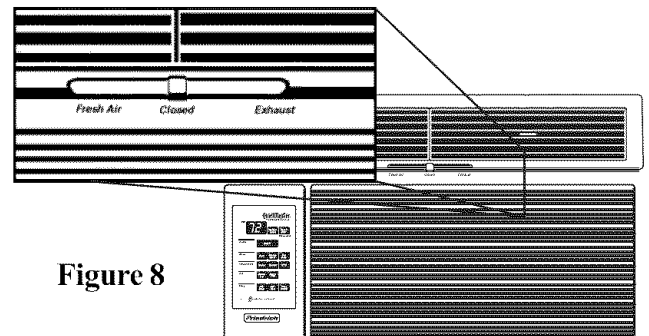

Figure 8
- 3 **FAN ONLY** - Press the **FAN ONLY** button if you want to run the fan only. You may want to use this feature in conjunction with the **FRESH AIR/ EXHAUST** if you want to bring outside air into the room, or exhaust stale air. (The **FRESH AIR/ EXHAUST** feature is located on the front of the air conditioner near the top. See page 7, Figure 8.)
Your air conditioner has the ability to bring fresh air into the room and exhaust stale air out of the room. The control lever is found on the upper part of the unit (See Figure 8).